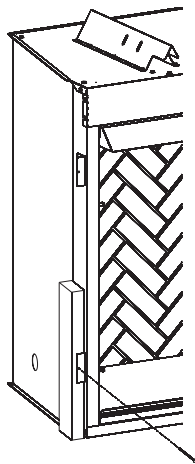

Figure 7
Place firebox in framing opening. Use the four (4) framing brackets provided on the firebox to attach firebox to framing. Different hole locations can be used for finishing materials with thicknesses of 3/8", 1/2" and 3/4". Attach these materials with screws provided, two (2) per framing bracket. See Figure 7.